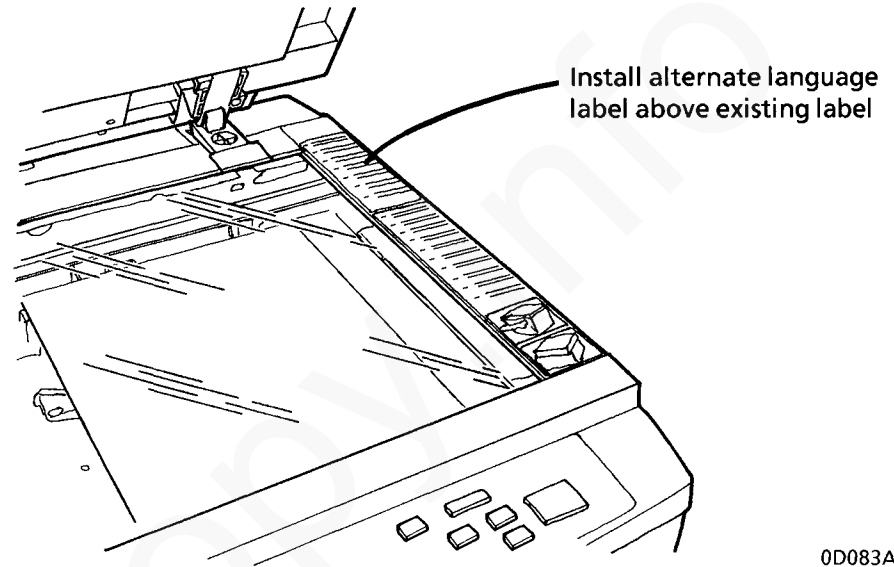

Figure 1.
2. If required, open the label envelope (packed with the Customer literature) and apply the appropriate language Status Code Label as shown in Figure 1.